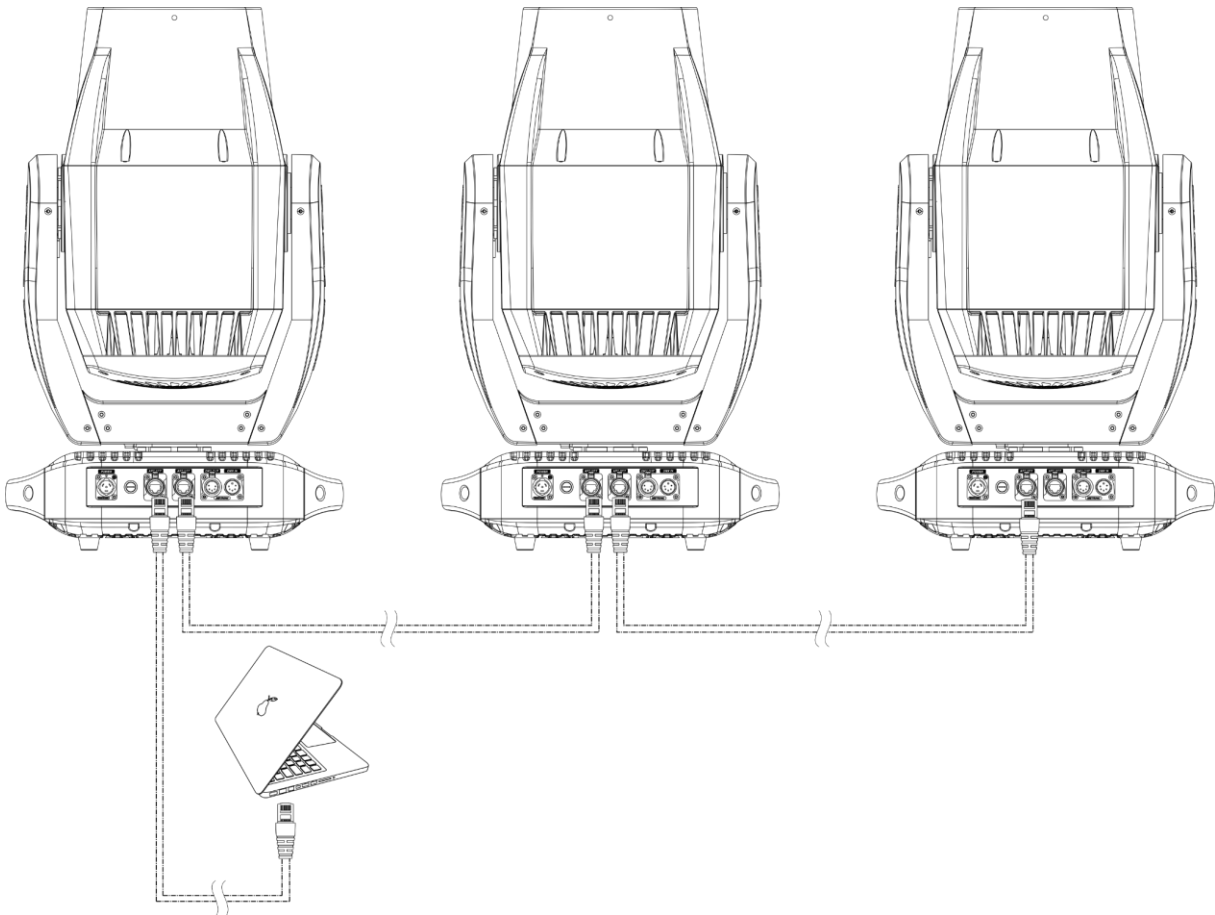

Fig. 09
- 05) Link the units as shown in Fig. 09. Connect the first unit's RJ45 "out" socket with the second unit's "in" socket, using a CAT-5/CAT-6 cable. Repeat this process to link the rest of the units.